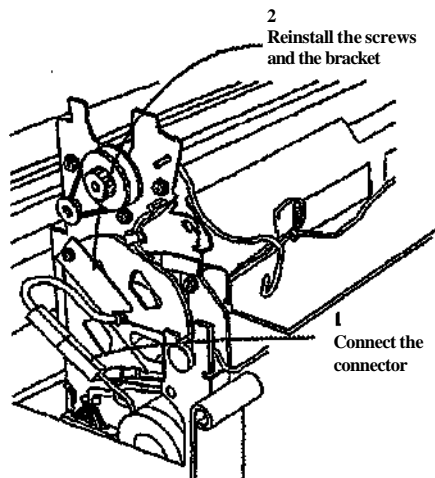

Figure 5. Reinstalling the Bracket (Left side)
2. (Figure 5): Reinstall the bracket (Left side).